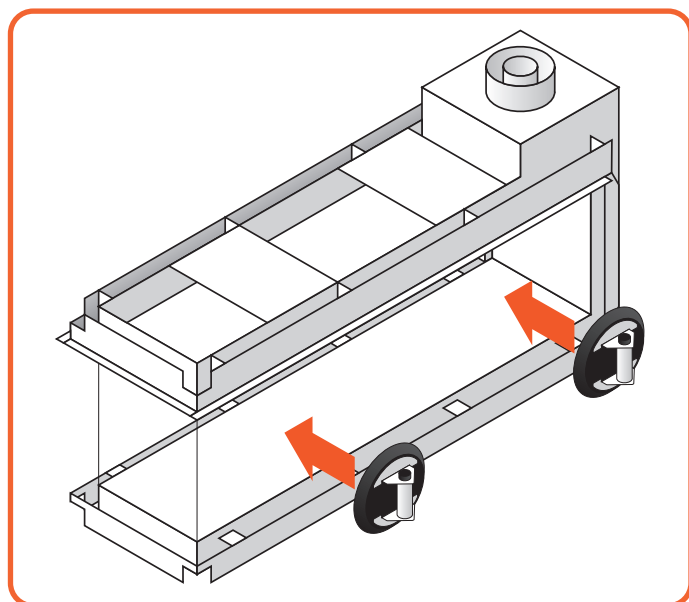

Figure 11.12 | Put on the suction cup
- Put the section cup on the glass and make sure it is properly vacuumed, so it will not come off. (See Figure 11.12)